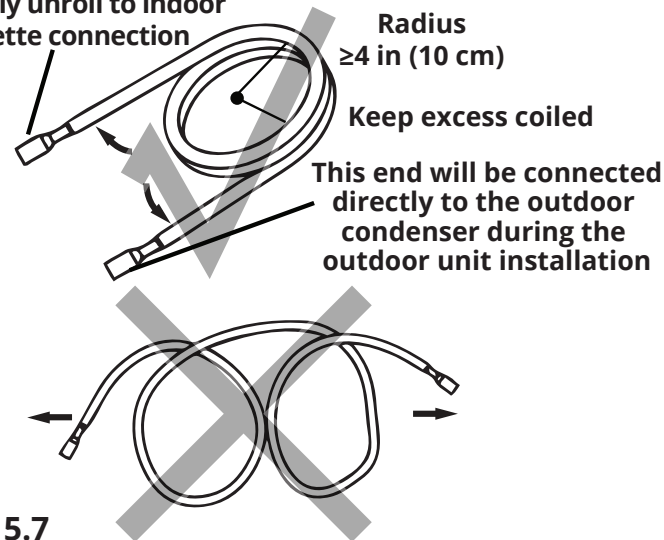

Fig. 5.7
1. While at the exterior, use your hands to slowly unwind the copper piping of one end of the Quick Connect® Line Set. The end you unwind will connect to the indoor unit piping. You should unwind the end until the connectors are close to flat on the ground (with little to no bend). If this is not done, it could make the line set difficult to maneuver when aligning the connectors with the cassette connection points. Only unwind as much as necessary for your application, and allow any excess to remain coiled (Refer to Fig 5.7).
When bending the connective refrigerant piping, it needs to have a bend radius of 4 inches. (Refer to Fig. 5.7)